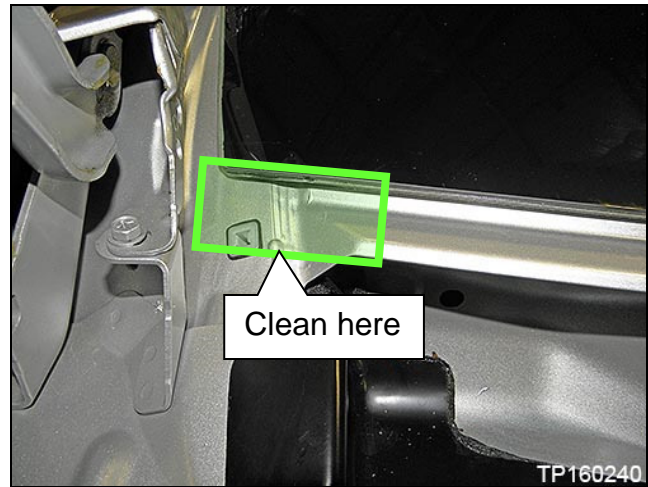

Figure 9
- a. Clean the area directly below the passenger side corner of the windshield with 50% isopropyl alcohol (Figure 9).